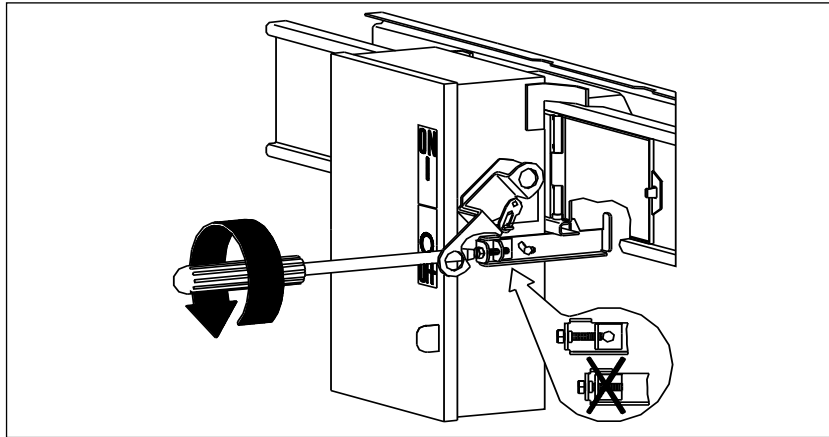

Figure 4: Securing the plug-in unit
5. Secure the plug-in unit. Turn the interlock screw fully counterclockwise (Figure 4). The plug-in unit is ready for operation. See SECTION 5—OPERATION.